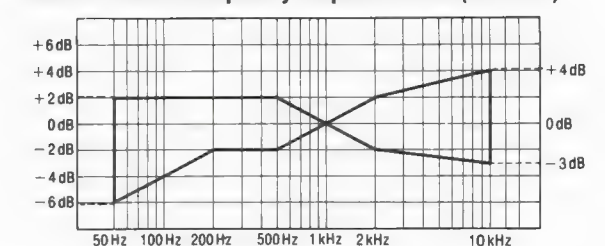

Fig. 8
5. Playback the recorded signal and assure that it is within the range shown in Fig. 8 in comparison to the reference frequency (1kHz).